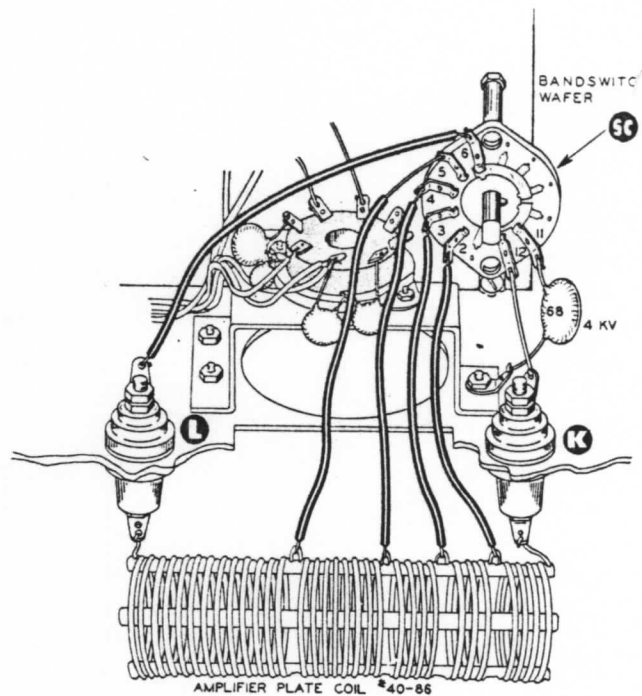

Figure 22
Position the chassis so that you are looking at the rear and refer to Figure 22.
- () Dress the four coil taps up through the slot and connect the very end, or sixth coil lead to the solder lug at K (NS) on top of the chassis.
- (✓) Slip four lengths of 1/8" sleeving over the four tap leads so that about 1/2" of wire shows at the switch end with the sleeving against the coil. Before connecting them in the following steps, form them as in Figure 22.